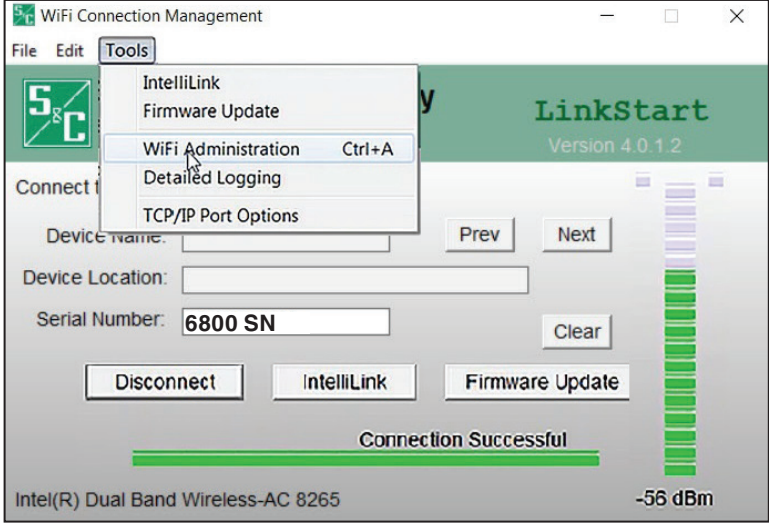

Figure 4. The Wi-Fi Administration entry on the Tools menu.
STEP 3. Open the **Tools** menu and click on the **Wi-Fi Administration** option. See Figure 4.